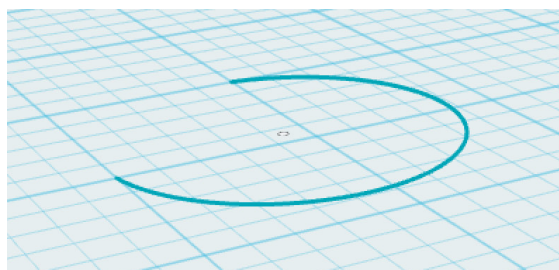

Figure 4-72 Exiting the arc of three points
6. You've created a three-point arc. Now you can begin a new arc, or click the checkmark to exit the three-point arc tool (Figure 4-72).